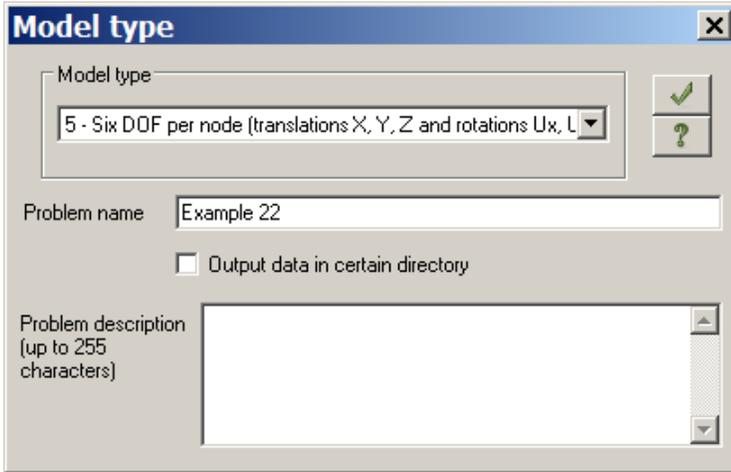

Figure 22.1 **Model type** dialog box
- ⇒ In the **Model type** dialog box (see Fig.22.1) specify the following data: